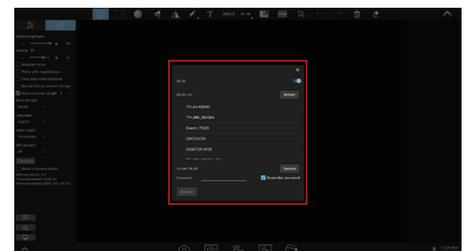

Figure 3
- (4) Select a local area network (Figure 3), enter password and click "Connect" button.